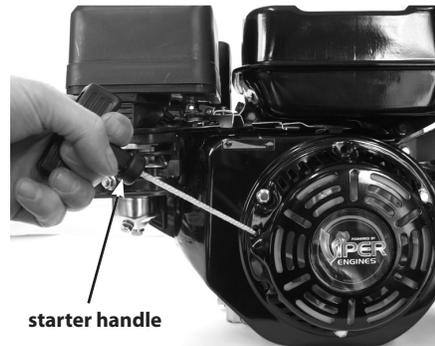

FIGURE 8
5. Grasp starter handle and pull out slowly, until resistance is felt. Without letting it retract, pull rope with a rapid full arm stroke. Let it return to its original position very slowly. Repeat this step each time the starter rope is pulled. **SEE FIGURE 8.**